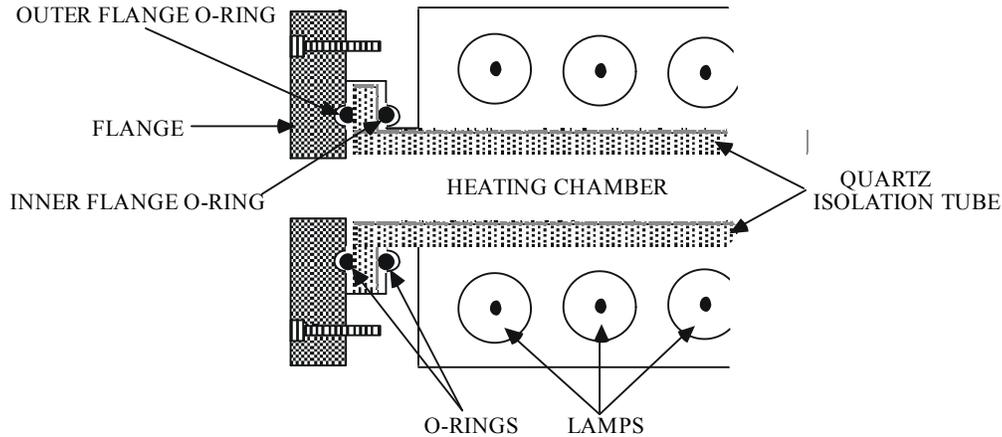

Figure 10-5: Flange O-rings
- Step 1. When ready to re-install the isolation tube, first install the inner flange O-ring. See Figure 10-5.
- Step 3. Install the outer flange O-ring into the groove of the flange, as shown in Figure 10-5.